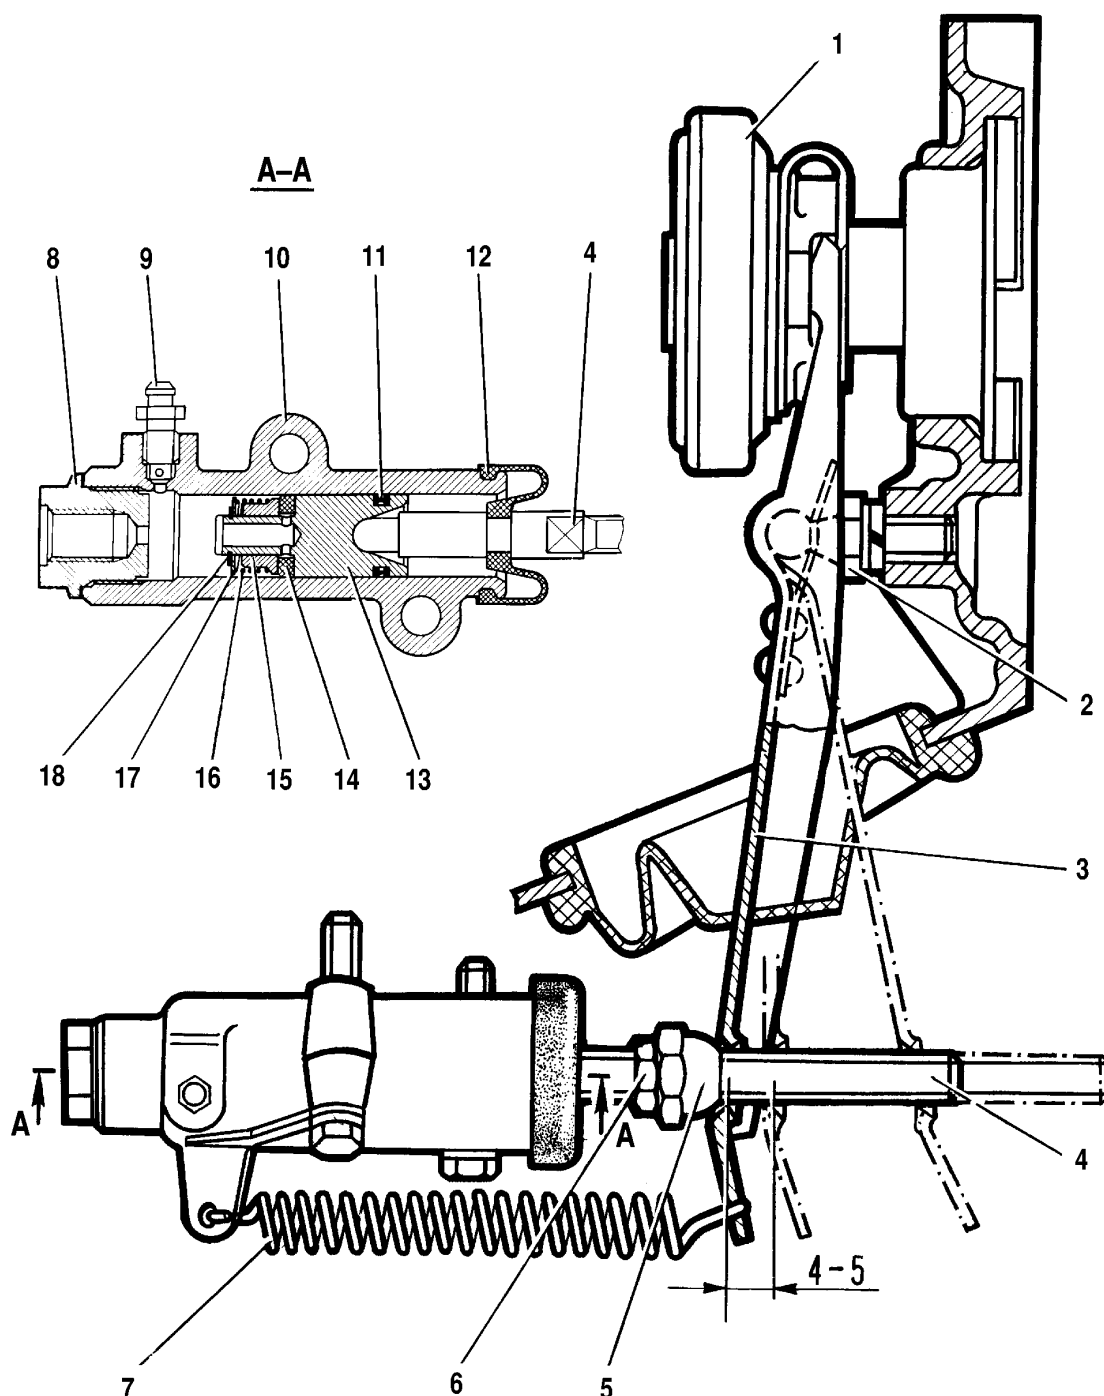

Fig. 3-3. Slave cylinder and clutch release fork:
- the free travel of the clutch release fork pushrod, equal to 4-5 mm, is adjusted by bolt 5 (fig. 3-3) and fixed by locknut 6. The distance of the pushrod free travel is controlled by a special pattern.
- put a hose on bleeder 9 (see fig. 3-3) of the slave cylinder and place its lower end into a container with hydrodrive liquid (30-50 gr);
First, drain working liquid. To do this, attach one end of the hose to bleeder 9 (see fig. 3-3) on the slave cylinder, and the other end place in a clean reservoir; unscrew bleeder 9 by 1/2-3/4 turn and depress the pedal several times until all liquid will be removed from the hydrosystem, then disconnect the tubes between the master and the slave cylinders, disconnect the return spring 7, remove the pin from the pushrod end, and the slave cylinder, having prior undone two fastening bolts.